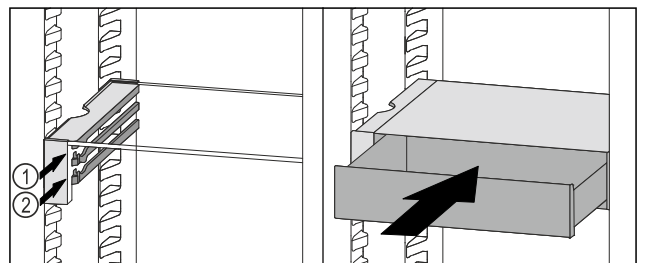

Fig. 207
- ▶ Place the VarioSafe drawer behind the stoppers on desired rib Fig. 207 (1) or Fig. 207 (2).